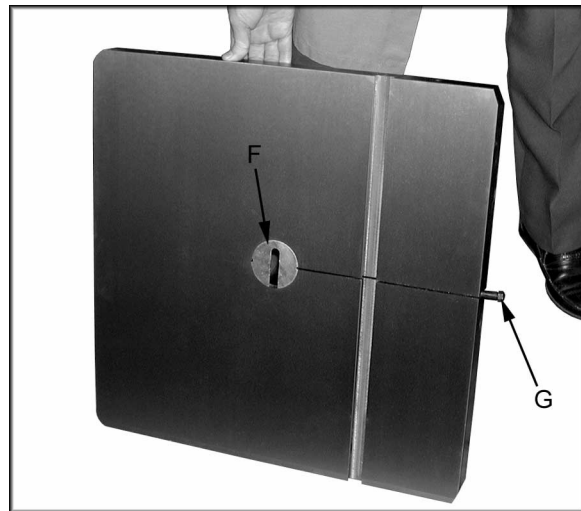

Figure 5
1. With help from another person, mount the table. Remove the table insert (F, Fig. 5) and table pin (G, Fig. 5).